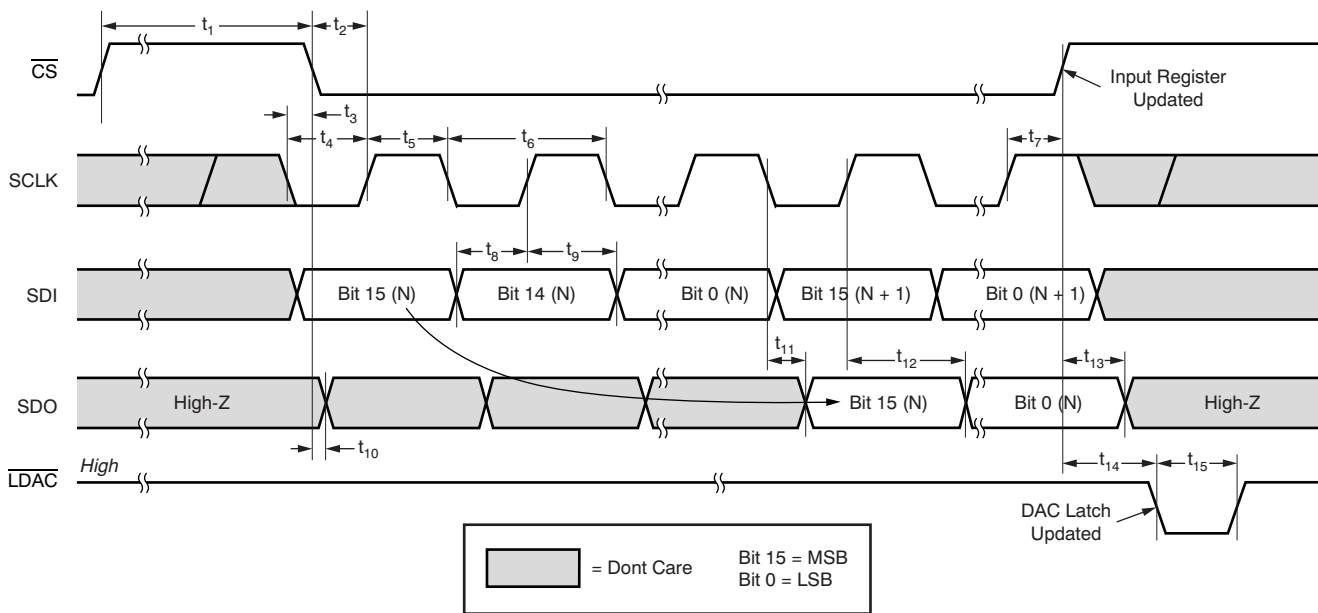

Figure 3. Timing Diagram of Daisy Chain Mode, Two Cascaded Devices
**TIMING CHARACTERISTICS for Figure 2 and Figure 3**(1)(2)(3)